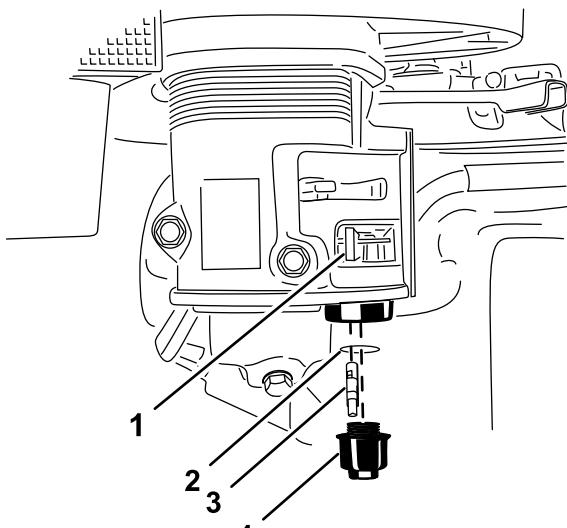

Figure 43
4. Move the lever of the fuel valve to the Off position, all the way to the left (Figure 43).
5. Unscrew the sediment cup. Remove the fuel filter and O-ring (Figure 43).
8. Install the fuel filter in the bottom of the carburetor (Figure 43).